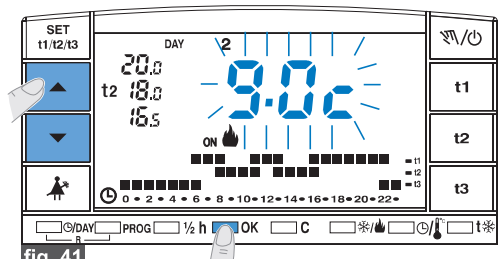

fig. 41
- Press **OK** to confirm and return to the set program (fig.41).